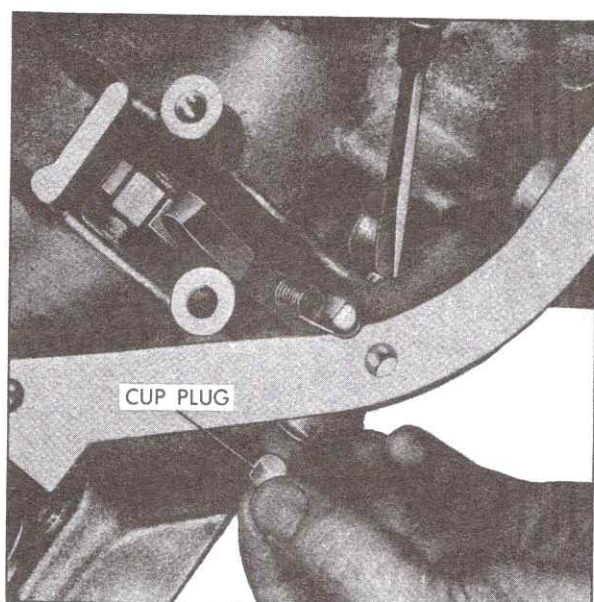

Fig. 7-41 Removing Cup Plug
8. Remove parking brake pawl shaft cup plug by placing screwdriver between parking pawl shaft and case rib and prying outward, Fig. 7-41.